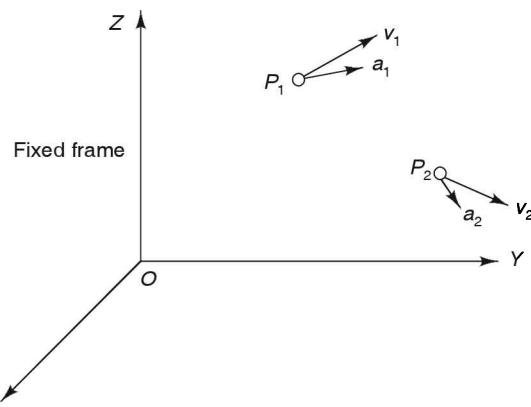

FIGURE 13.1 Relative velocity and acceleration.
- (a) *Motion in a fixed frame.* Consider two points P_1 and P_2 moving with v_1 and v_2 velocities and a_1 and a_2 accelerations with respect to a fixed frame of reference (Figure 13.1). Then relative velocity of P_1 with respect to P_2 is given by